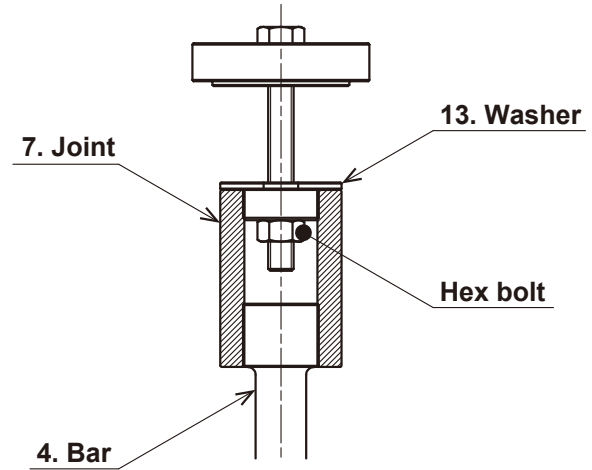

Figure 2
(2) Assemble the # 13 washer, # 7 joint, and # 4 bar as shown in (Fig. 2).